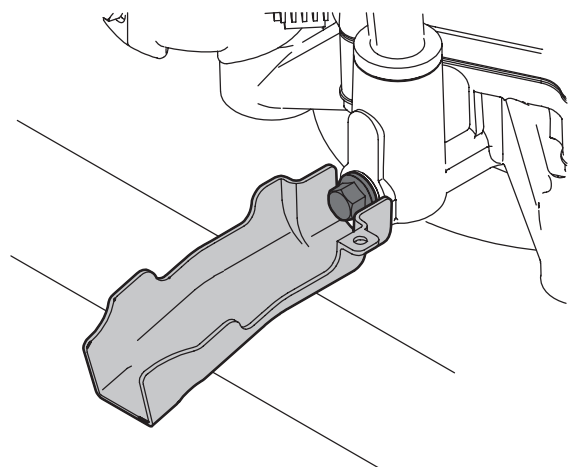

Figure 22
4. Snap the small end of the oil drain sleeve onto the oil sump (Figure 22).